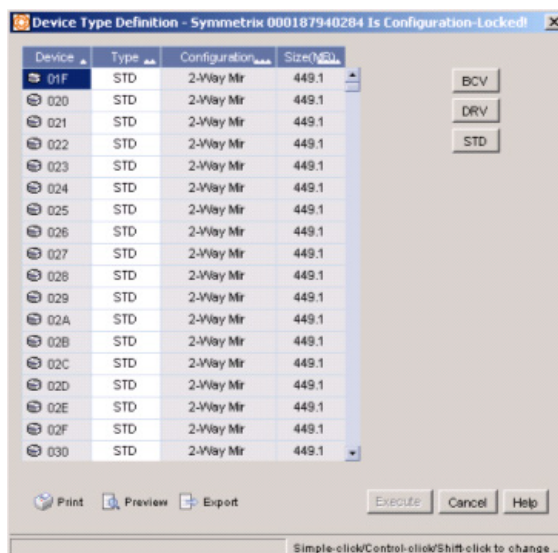

Figure 11-9 BCV/DRV Definition Dialog Box
1. From the Storage folder in the tree panel, go to the Unmapped Devices folder for the Symmetrix array to which you are adding BCVs. Right-click and select **Configure, Device Type Definition**. The BCV/DRV Definition dialog box appears (Figure 11-9).